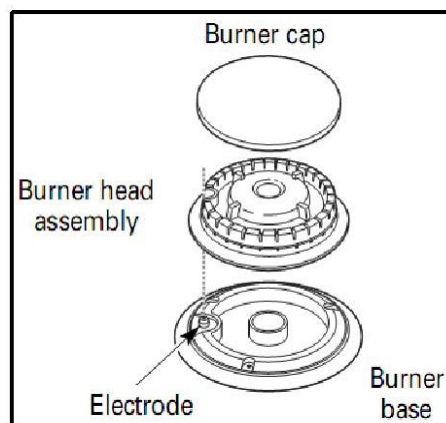

Figure 1
- Place a burner cap on each burner head (see Figure 1), matching the cap size to the head size. The cap for each burner has an inner locating ring which centers the cap correctly on the burner head. Be sure that all the burner caps and burner heads are correctly placed BEFORE using your appliance.